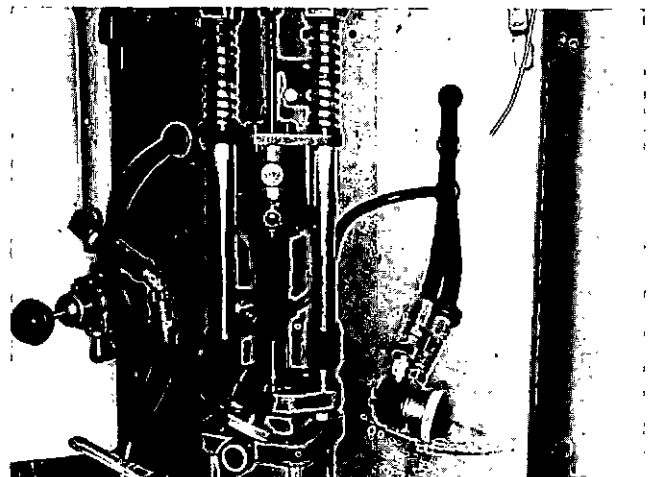

Fig. 4-38, (F60208). The link and injector in position
2. The push rod is connected to the injector by a link so the injector plunger will be actuated by the cam action just as it is in the engine, Fig. 4-38.